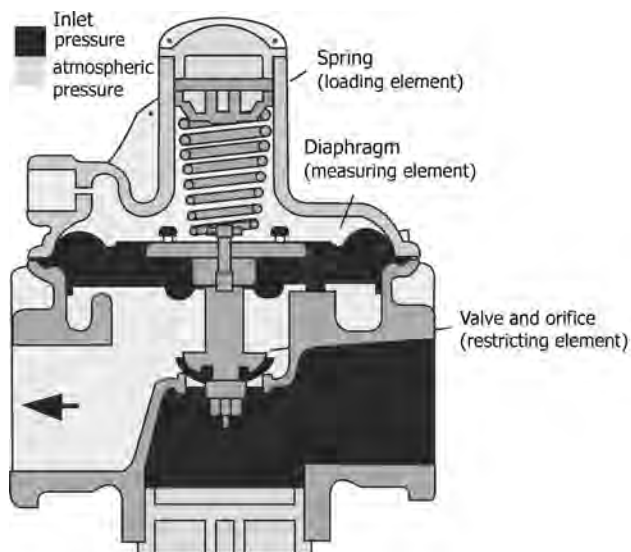

FIGURE 3.15 Relief valve.
- A typical relief valve assembly is shown in Figure 3.15.